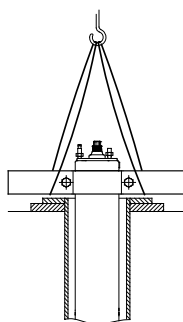

Fig. 15 Motor in vertical position
2. Place the motor in vertical position at the borehole. See fig. 15.